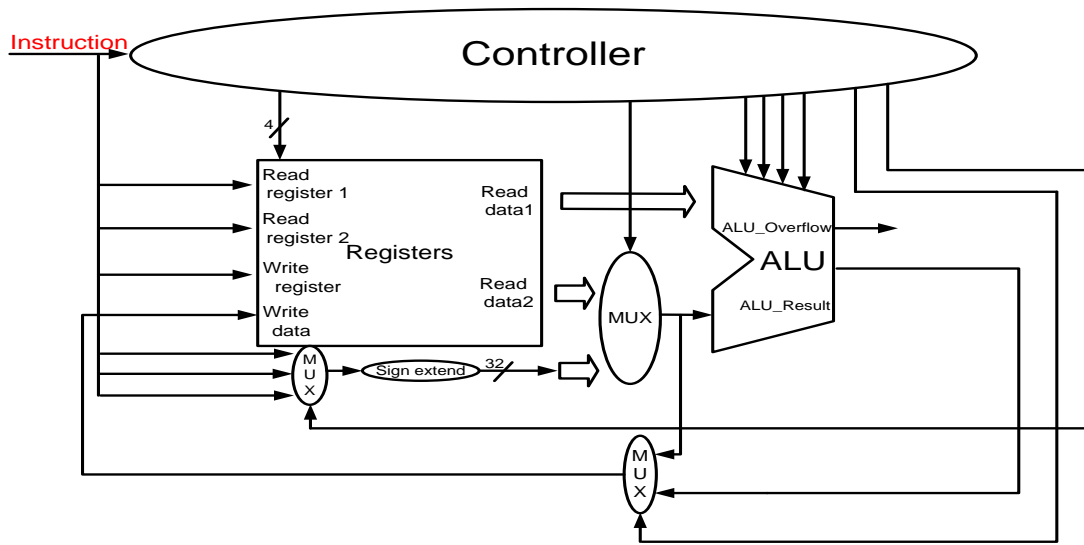
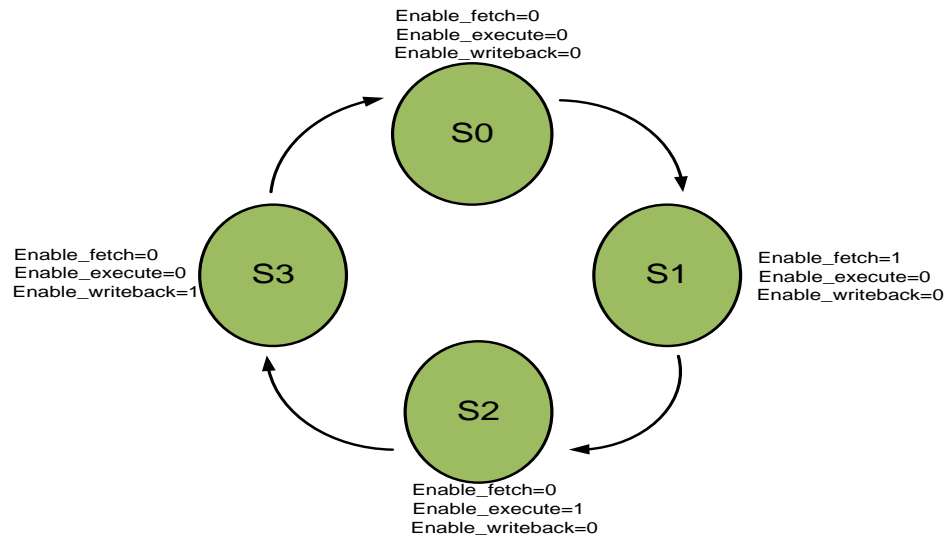

Fig. 5 Block diagram of a controller
Fig. 6 State Diagram of the controller
4. (60 points) Design a controller unit that is able to decode an input instruction as shown in Fig. 5 and control the datapath unit designed in Problem 4 to carry out the designated operation. A reference state diagram is attached in Fig. 6 for your reference. Develop a testbench that includes the instructions with the format as shown in Fig. 7 and verify the overall system (controller + ALU + register file).
Its state diagram of the controller is as shown in Fig. 6.